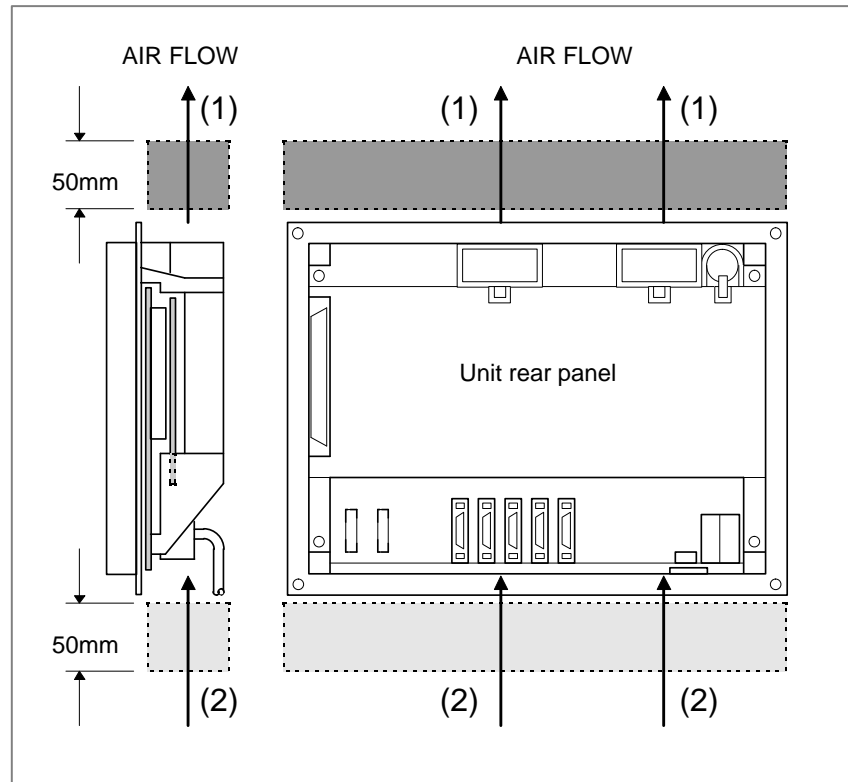

Fig. 3.9.2 Installing of the control unit
Space (1), shown in Fig. 3.9.2, must be provided to ensure unrestricted air flow. Also, space (2) should be provided whenever possible. When space (2) cannot be provided, ensure that nothing is placed in the immediate vicinity which could obstruct the air flow.